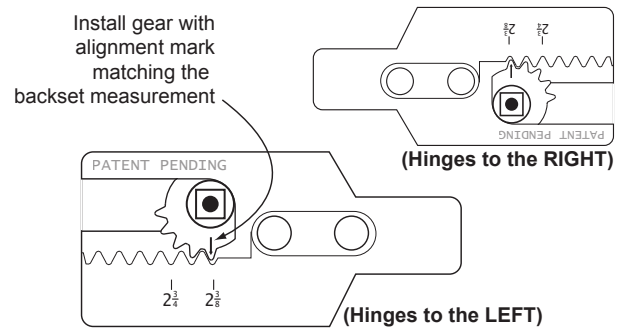

Figure 9
- Align the arrow on the first tooth of the **gear** with the marking corresponding to the backset measurement previously recorded and engage the gear teeth (Figure 9), making sure that flat tailpiece of **key lock** properly mates with **gear** cross hole.